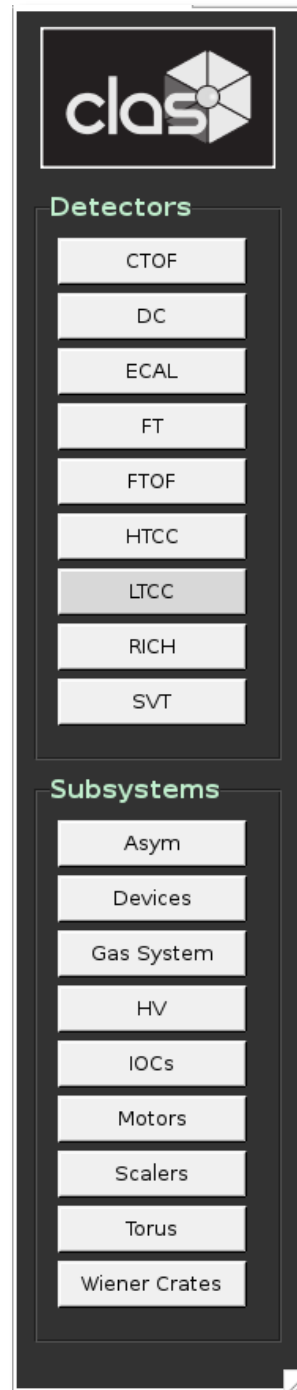
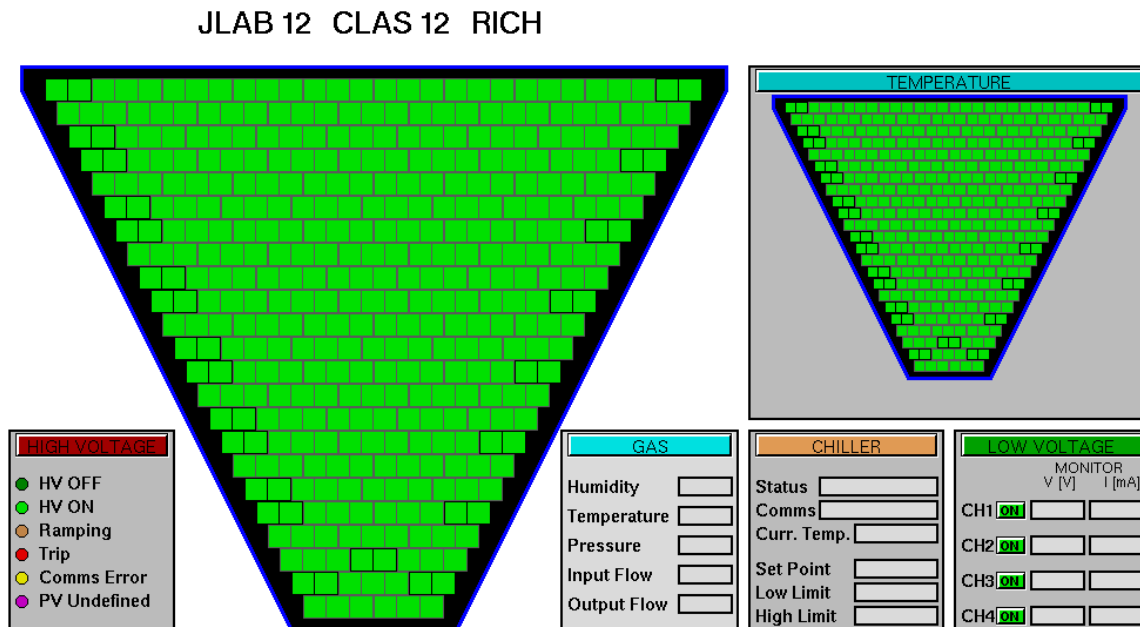
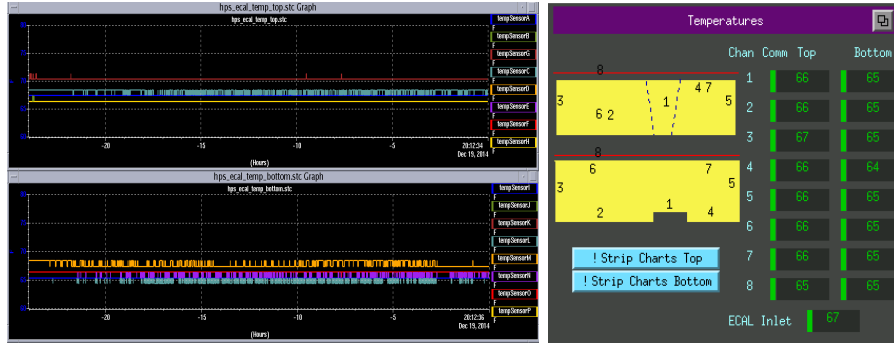
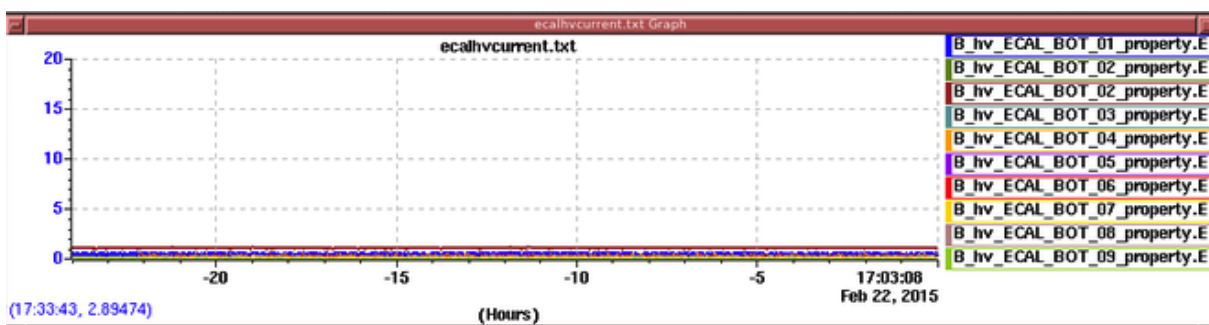

Figure 7: View of the Hall-B EPICS main window.
Figure 8: The primary EPICS screen needed for shift workers to monitor RICH.
Figure 9: View of the EPICS temperature monitoring strip charts (left) and the temperature portion of the main RICH EPICS screen (right).
Figure 12: HV Current strip charts.
All RICH controls will be accessible through EPICS, from the main CLAS_EPICS window (figure 7). If not already running, it can be opened by executing the command
The primary RICH screen is shown in figure 8 and opened via the **RICH** button in the right side of the main CLAS EPICS screen (figure 7).
This one screen combines all basic RICH EPICS controls and monitoring into one window. It is accessible from the **RICH** button in figure 7. This includes embedded versions of the dedicated screens in the following sections: temperature sensors, chiller, and low and high voltage.
Eighteen temperature sensors are placed in the RICH enclosure and should be monitored through RICH's main EPICS screen and the strip charts shown in in figure 9. Variations of two degrees F or more during a shift should be reported to RICH expert on call and noted in the log book. The strip charts are accessible from the two buttons in the temperature section of Figure 8 (and also the main CLAS EPICS screen in Figure 7).
The high voltage supply of the RICH is controlled and monitored using the main RICH EPICS window (Figure 8). It has buttons to ramp up and down the entire calorimeter’s high voltages (labeled **ALL ON** and **ALL OFF**), open windows for individual channel control (figure 13), and open more detailed expert views (e.g. figure 16).
Individual channels’ currents can be monitoring in figure 13, and strip charts should be open for long term monitoring. The strip charts are accessible from the main RICH screen (figure 8) under the HV sections’ **Monitors** button (and also from the HPS_EPICS screen (figure 7) via the **Strip-Tool** button). An example is shown in figure 12. Jumps or drifts in current of more than 1 A should be noted in the logbook.
HV problems, in particular trips, are indicated by a red group in the main RICH EPICS GUI (figure 8). HV trips will also be announced by the alarm handler. During normal
operations with HV ON, there should be no red groups in Figure 8 and no RICH HV alarms. In case of an HV trip, or a red region in Figure 8:
- Try to reenble the tripped HV group by turning it back on in the EPICS HV control screen (figure 13) accessed via the **Controls** button in the main RICH EPICS screen (Figure 8). (An easier alternative is just pressing the **ALL ON** button in the main RICH EPICS screen.)